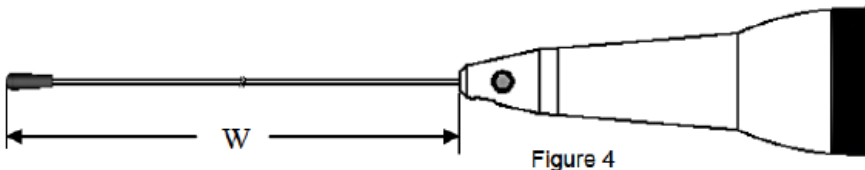

Figure 4
2. **NOTE:** The Tuned Length "W" is determined by measuring the distance between the top of the whip adapter and the top of the whip. See Figure 4. Cut length dimension will be approximately 1" (25mm) longer than tuned length "W".
5. Cut the whip length required to establish the specified Tuned Length "W" as shown in Figure 4.